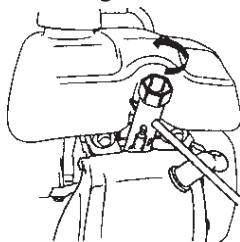

Fig.12
- e. Check the spark plug seal - ring, screw in the spark plug with special spanner so as to protect its threads (as shown on the Fig.12).